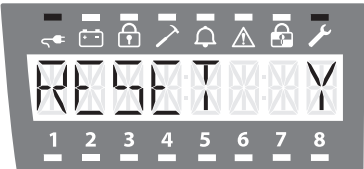

fig. 30
- Default Programming Restoration Procedure - Enabled (fig. 30).